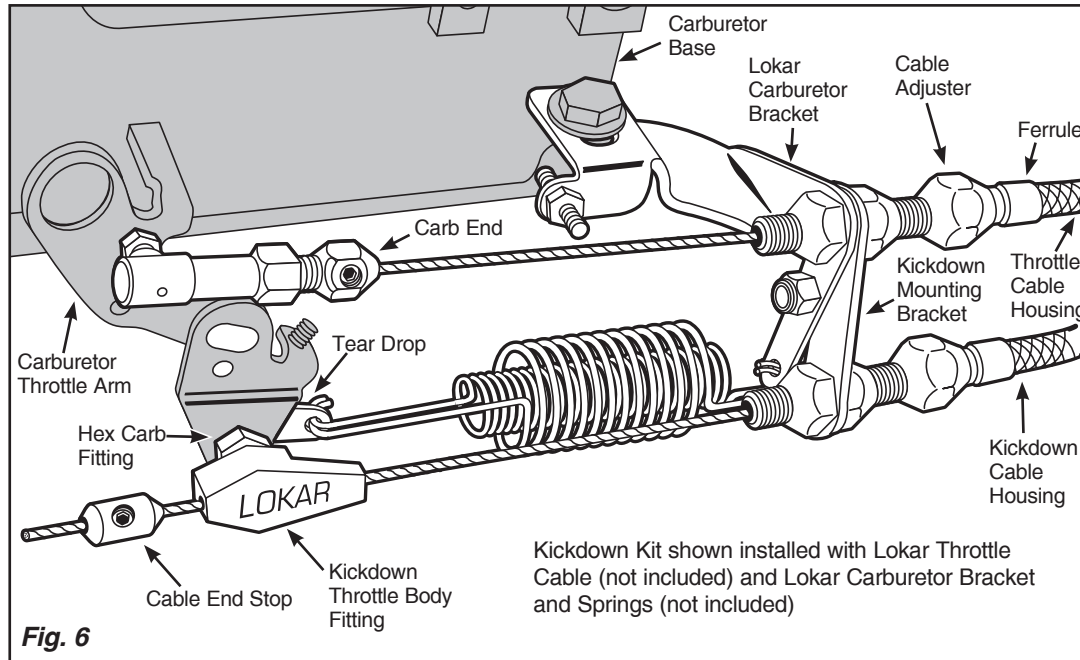

Fig. 6
Step 6: The tear drop will be attached to the carburetor throttle arm by the hex carb fitting. Separate the hex carb fitting from the kickdown throttle body fitting. Install the hex carb fitting and the tear drop onto the carburetor throttle arm as shown in **Fig. 6**. Hook the springs to the tear drop and tighten the nylock nut on the hex carb fitting. Then back the nylock nut off just enough so that the tear drop can pivot freely.
Double check to be sure that all carburetor, throttle and kickdown linkage operates freely without binding, then test drive. Once the kickdown cable is correctly adjusted and operating properly you can cut off the excess inner wire, leaving about 1/2" extending beyond the cable end stop to allow for future adjustment if needed. Final installation should look like **Fig. 6** and **Fig. 7**.